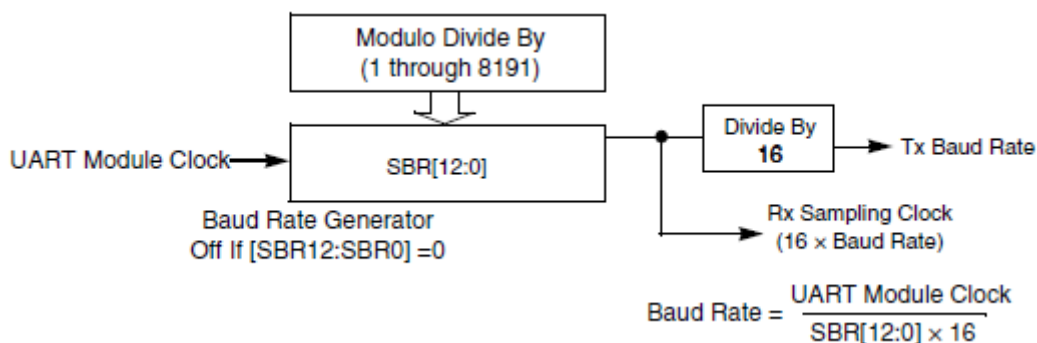

Figure 2. UART baud rate generation
- Select the desired baud rate by writing a value in UART baud rate register low and high (UARTx_BDL and UARTx_BDH). Remember to use the equation in Figure 2.